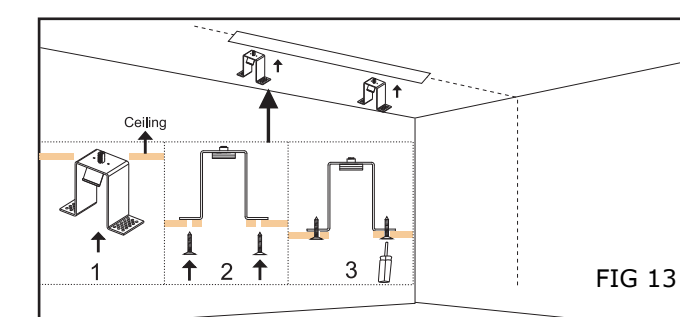

FIG 13
3. Insert the recessed accessories into the measuring position on the back of the open ceiling. Fix the fittings with self-tapping screws and check whether the fittings are installed correctly. Ensure the track is firmly installed (Fig 13).